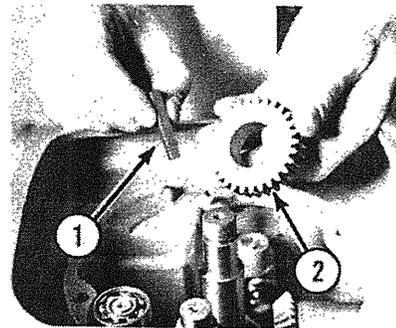

Fig. 4-9
- J. Remove key (1, Fig. 4-9) from the center shaft then remove upper clutch gear with bushing (2, Fig. 4-9).